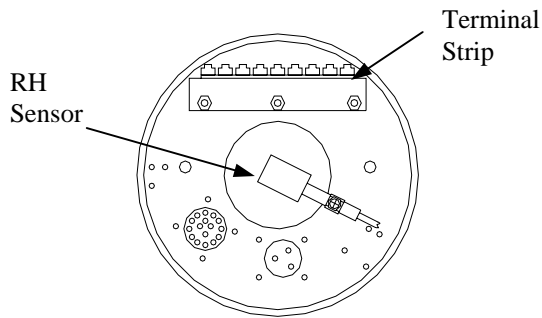

Figure 6
2. Removing the housing exposes the sensor mounted at the base of the inlet cylinder in front of the fan (See Figure 6).